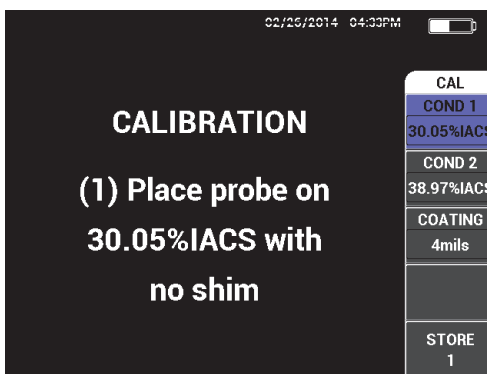

Figure 5-49 The displayed instruction (1) after PowerLink acceptance
2. When prompted, select **CONTINUE** (A key) to accept the PowerLink information (see Figure 5-49 on page 161).